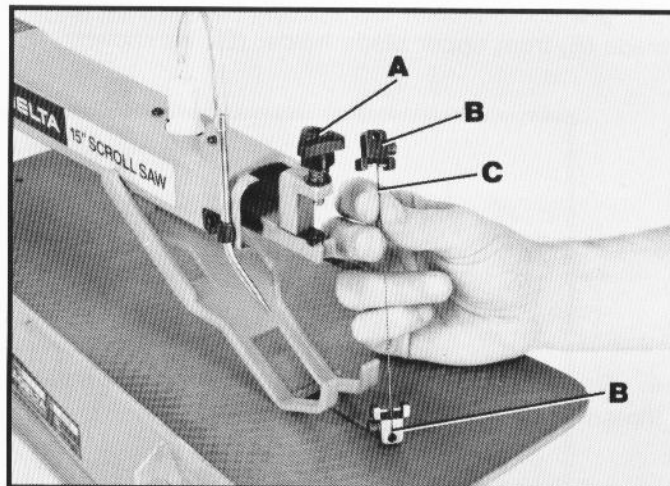

Fig. 32
3. Loosen blade holder locking knob (A) Fig. 32, and remove upper and lower blade holders (B) and blade (C) as shown.